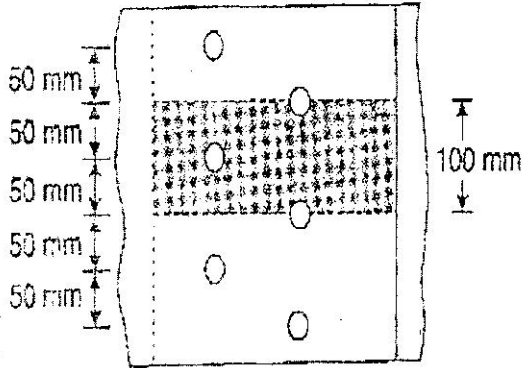

Fig. 2a
- (a) Determine the strength and efficiency of the lap joint shown in Fig. 2a. The bolts are of 20 mm diameter and of grade 4.6. The two plates to be joined are 10 mm and 12 mm thick. Use steel of grade Fe 410.